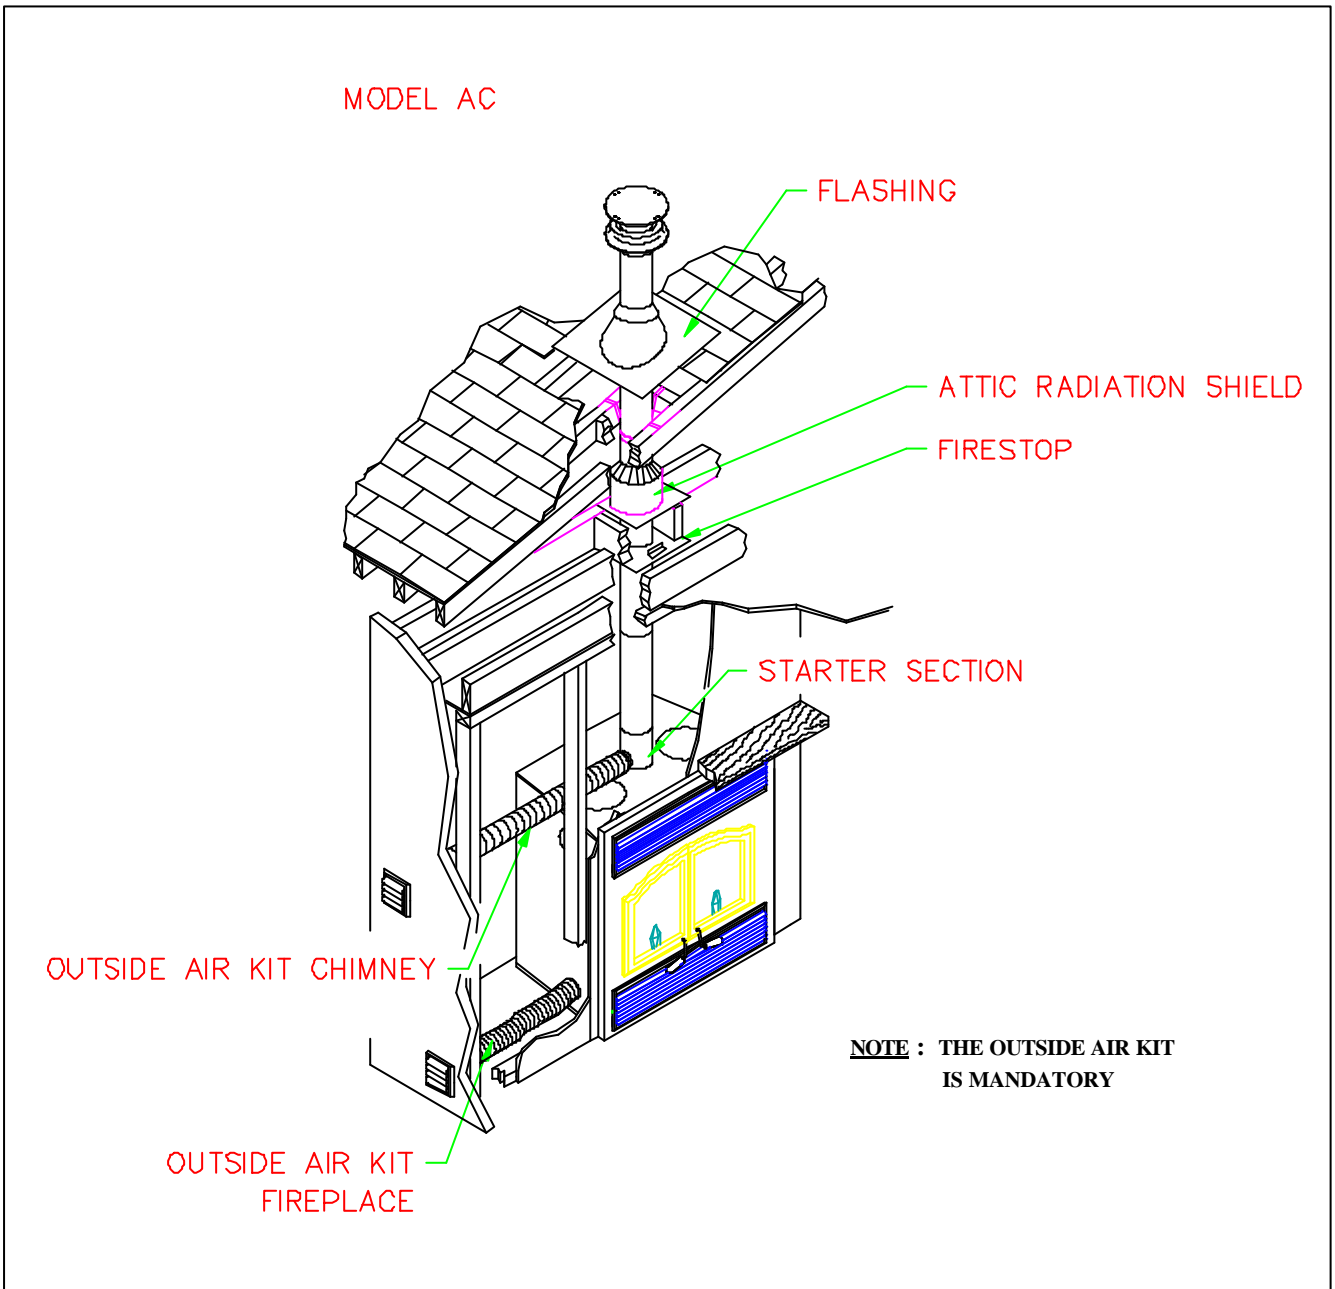

Figure 28
3. For ASHT+ / HT6103+ and S2100+ / HT6000+ chimneys, place the first chimney length on the fireplace. To lock it in place, turn ¼ of a turn clockwise. With the AC chimney, you must use a starter section before installing the first chimney length (figure 28). Continue installing chimney lengths making sure to lock each length in place.